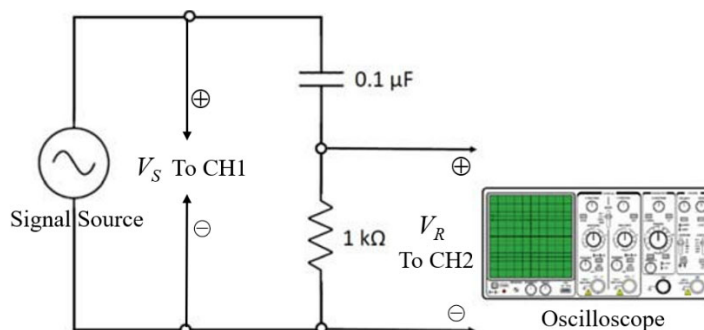
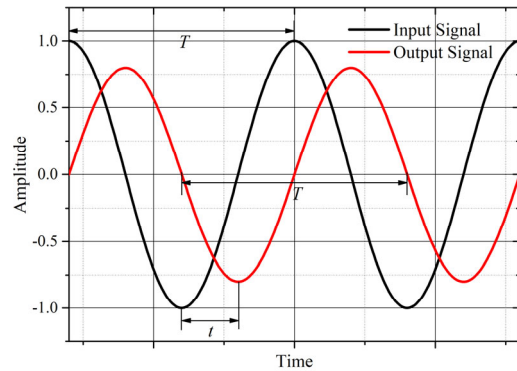

Figure 2. Measurement of voltage V_R across 1-k Ω resistor.
Figure 3. The input (signal source) and output (V_R) signals of the circuit in Fig. 2 with a period of T and time shift of t .
- (1) Build the circuit shown in Figure 2.
- (2) Set the signal waveform in the signal generator as follows: 500-Hz sine wave with amplitude of 1 V and DC offset of 0V.
- (3) Find the period T of the signal source (input signal). Also, find the magnitude and the phase angle of V_R from t in Figure 3. The phase shift can be calculated with $|\Delta\phi| = 360^\circ \times t/T$. ($\Delta\phi$ will be positive (negative) if the output signal leads (lags) the input signal)
- (4) Compute the current I_R of the resistor ($I_R = V_R/R$). Fill in the columns (both magnitude and phase angle) of V_R and I_R in Table I.
Table I. Measured/calculated values of RC Circuit given in Figures 2 and 4.